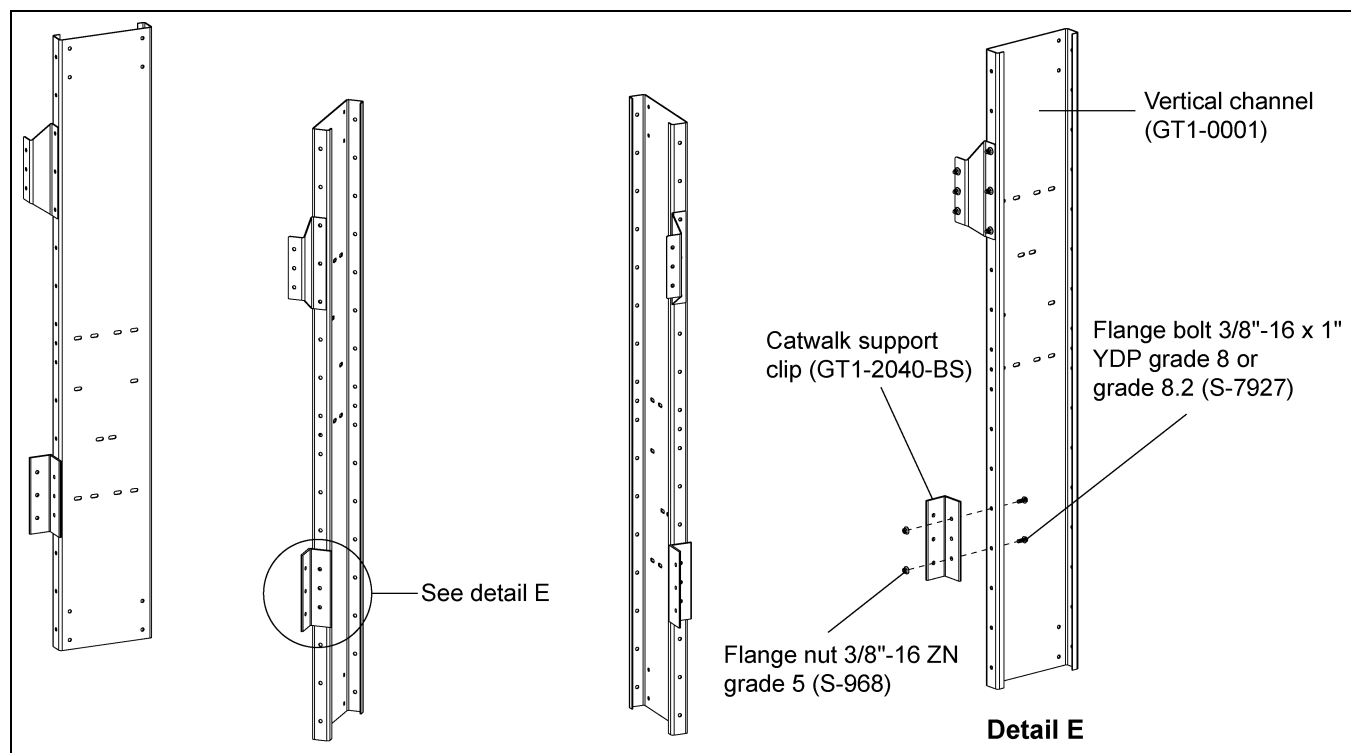

**Figure 6G** Offset Catwalk Support Clip Installation
1. Install catwalk support clips (GT1-2040-BS) to vertical channels (GT1-0001). Support clip can be installed on each vertical channel as the wall sheets are installed using 3/8"-16 x 1" YDP grade 8 or grade 8.2 bolts (S-7927) and 3/8"-16 ZN grade 5 nuts (S-968). *(See Figure 6G below and Figure 6I on Page 44.)*